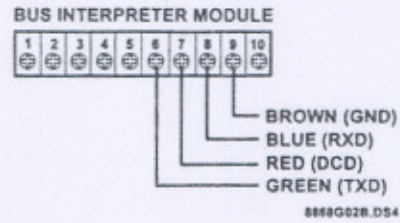

Figure 7. Wiring the DIN 8-pin Cable to the Bus Interpreter Module
- 1) Connect the colored wires of the DIN 8-pin cable to the bus interpreter module as shown in Figure 7.